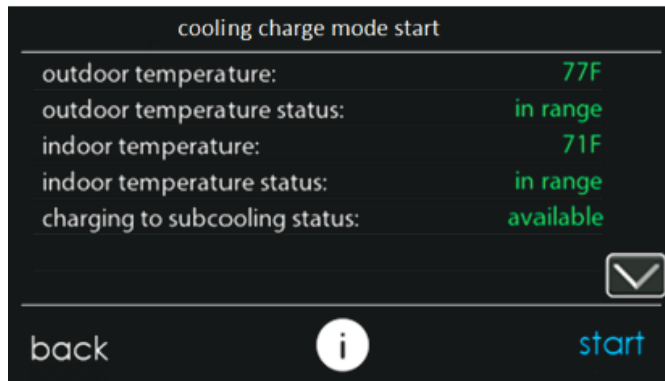
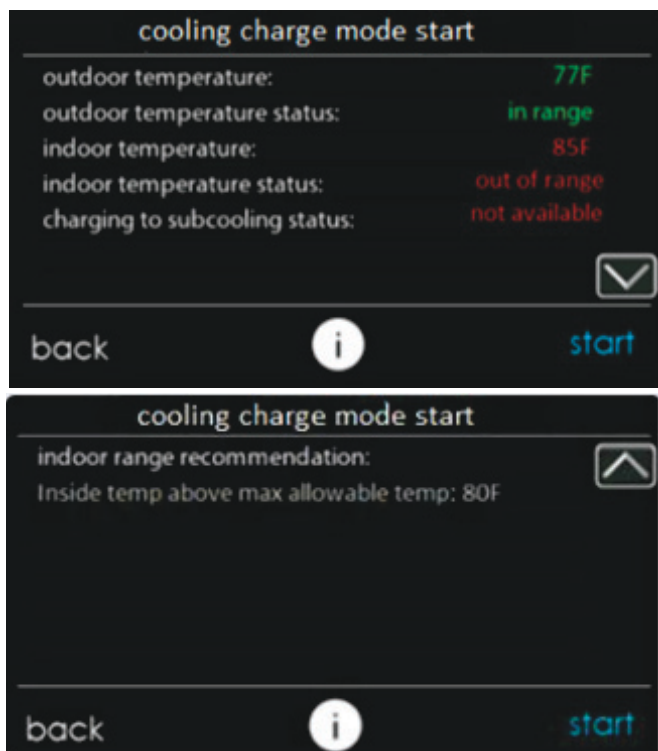

Fig. 16 – Cooling Charge Mode Start Screen - Subcooling Available ^{A240373}
Fig. 17 – Cooling Charge Mode Start Screen - Subcooling Unavailable ^{A240385}
8. The next screen, “cooling charge mode start” is shown in Fig. 16 or Fig. 17 depending on whether subcooling charging is available. The reason for unavailability of subcooling can be viewed by pressing the down arrow to go to the second page. Before selecting “Start”, verify that the service valves are open. Pressing start will turn on the system at a fixed set of operating parameters in COOLING mode.